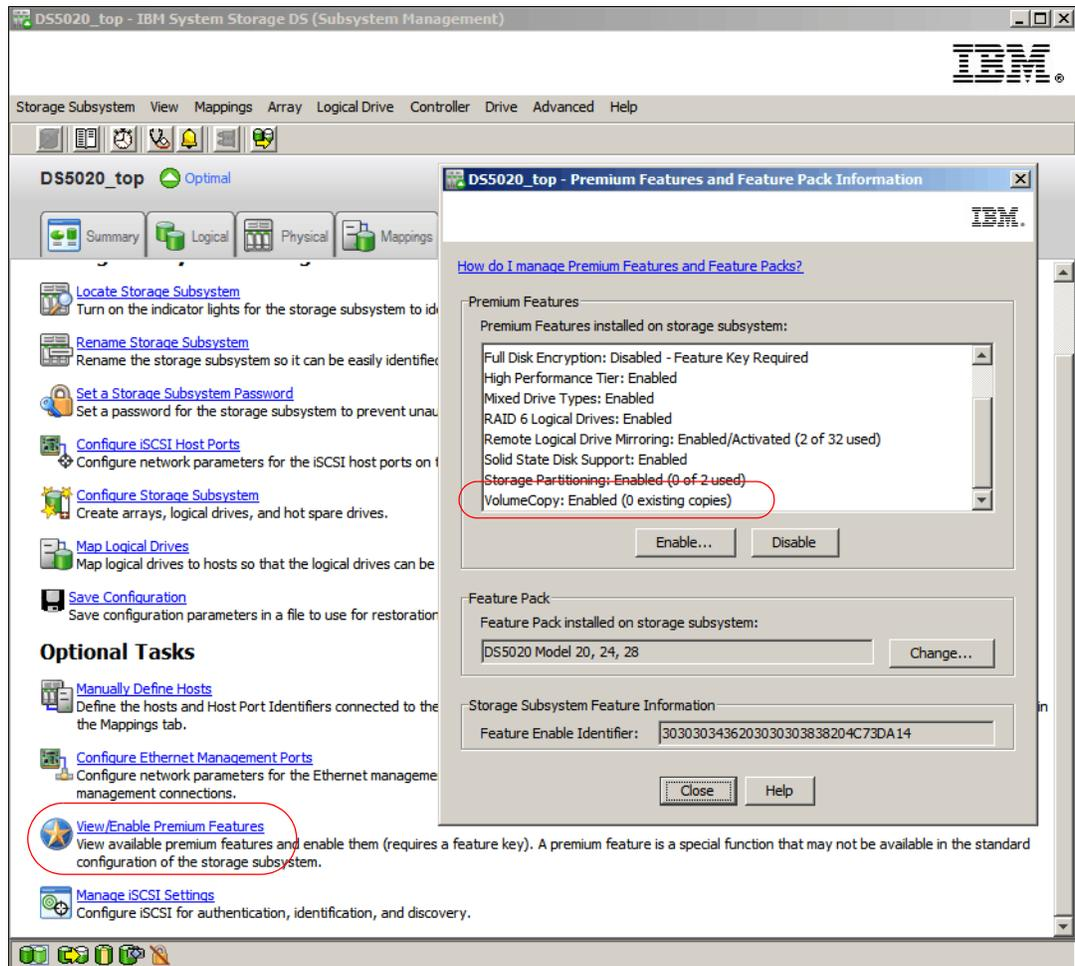

Figure 1-5 Premium feature activated
4. Select **Storage Subsystem** → **Premium Features**, or select the **Setup view** of the DS Storage Manager (Subsystem Management) window, then click **View/enable Premium Features**. The premium feature activated shows as **Enabled**. See Figure 1-5.
Note: You can also access the **Premium Features and Feature Pack information** window from the Setup tab of the DS Storage Manager (Subsystem Management) as shown in Figure 1-5 on page 10.